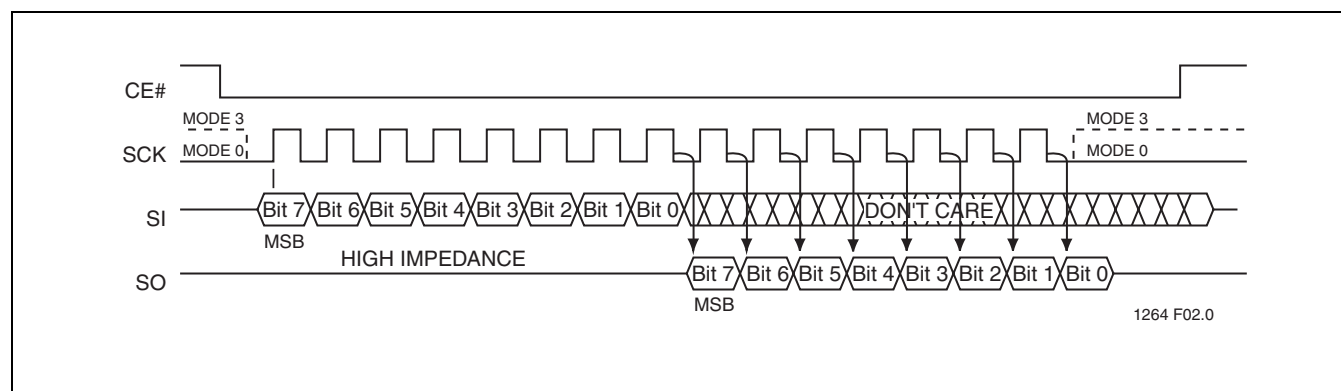

FIGURE 2: SPI PROTOCOL
The SST25VF512A supports both Mode 0 (0,0) and Mode 3 (1,1) of SPI bus operations. The difference between the two modes, as shown in Figure 2, is the state of the SCK signal when the bus master is in Stand-by mode and no data is being transferred. The SCK signal is low for Mode 0 and SCK signal is high for Mode 3. For both modes, the Serial Data In (SI) is sampled at the rising edge of the SCK clock signal and the Serial Data Output (SO) is driven after the falling edge of the SCK clock signal.